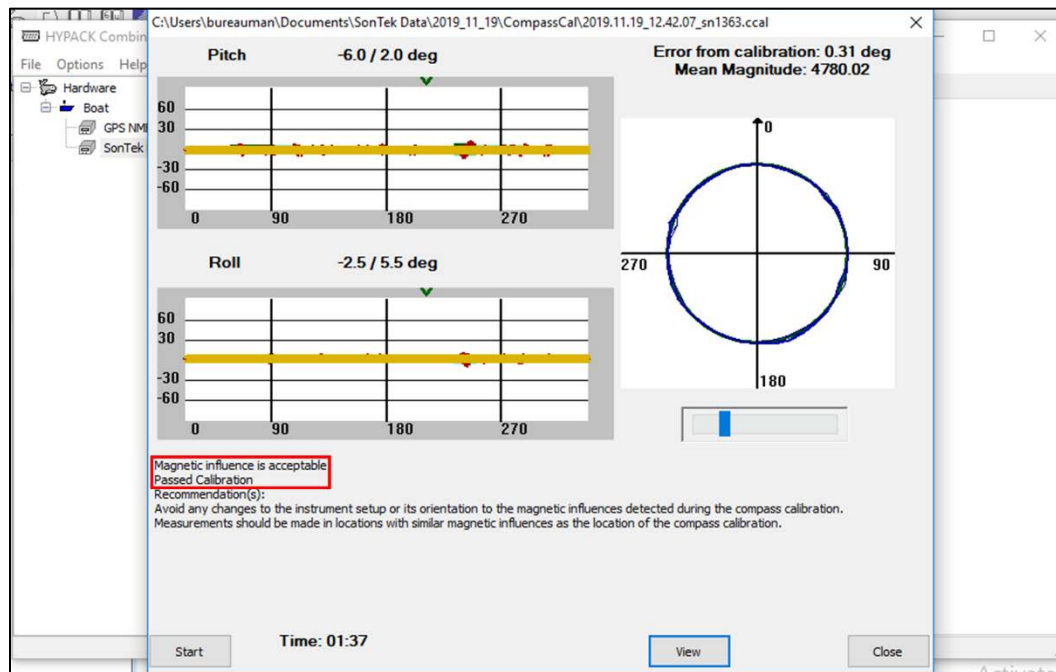

Figure 10.—Example of successful SonTek M9 magnetic compass calibration.
- Perform compass calibration (two complete rotations of the SonTek M9 over 2 minutes). Repeat compass calibration until “Magnetic influence is acceptable” and “Passed Calibration” messages appear near the bottom of the compass calibration popup window (figure 10). If compass calibration fails multiple times, the survey vessel with mounted SonTek M9 may need to be moved to another nearby location within the survey area for proper calibration (away from ferrous metals, power lines, large metal structures, and other sources of magnetic influence). Examples of successful and unsuccessful compass calibrations are shown in figure 10 and 11, respectively.